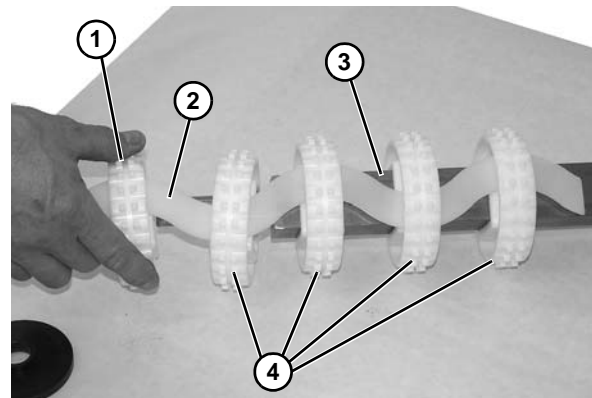
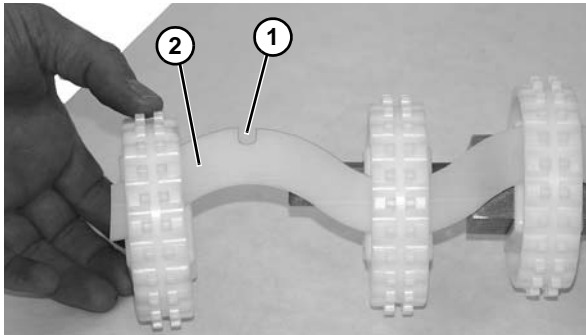

Figure 71
Figure 72
- Slide entire sprocket assembly slightly outward, and remove the first sprocket (**Figure 71, item 1**) off the drive spindle (**Figure 71, item 2**) and alignment bar (**Figure 71, item 3**). Inspect and replace if worn.
- Remove remaining sprockets (**Figure 71, item 4**) off the alignment bar as you slide entire assembly off the drive spindle.
16. Install second sprocket and subsequent sprockets (**Figure 71, item 4**) one by one, while sliding entire assembly onto alignment bar (**Figure 71, item 2**) and spindle (**Figure 71, item 3**), making certain each sprocket is locked into retaining tab cut out (**Figure 72, item 1**) on alignment bar (**Figure 72, item 2**).